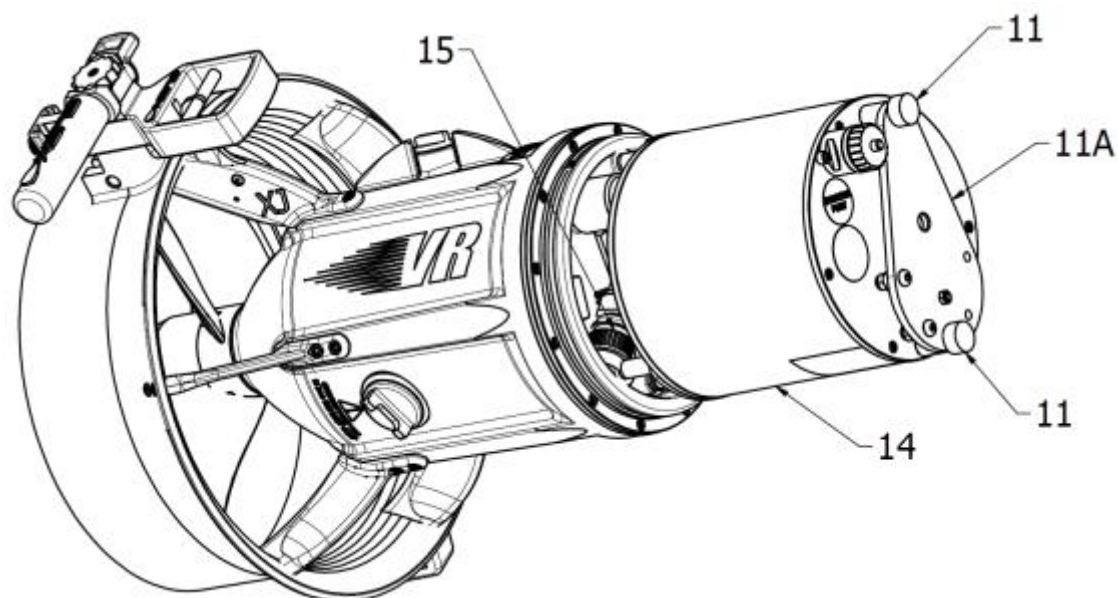
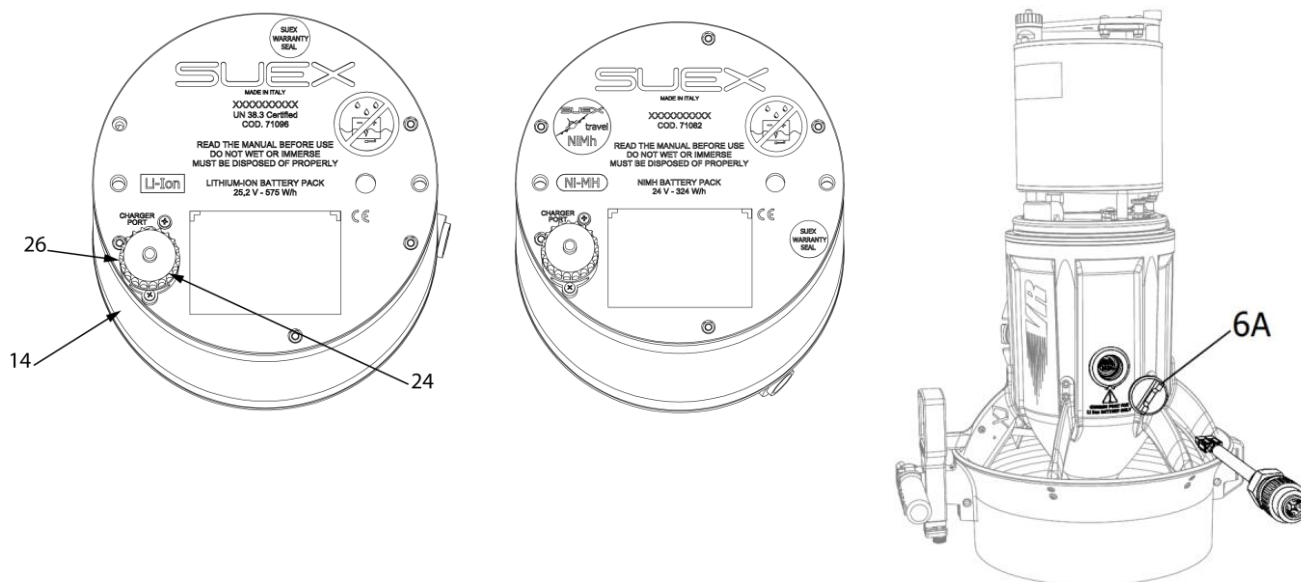

Fig.3 - Extracting the battery
Fig.4 - Battery charging
The battery should be recharged **ONLY** through the **CONNECTOR** (26 - Fig.4), **FORBIDDEN** recharge the battery when it is connected to the engine: there are **RISK OF SERIOUS DAMAGE or DEATH**.
To recharge the battery, remove the battery (14) from the Scooter (Fig. 3), put it in a safe place away from people and flammable objects, unscrew the cap of the charging connector (24 - Fig. 4), connect the socket battery charger power supply to the mains and connect the charging connector (26) to the battery charger (see Battery charger user manual). At the end of charging, disconnect the battery charger and screw the cap (24) of the connector (26) back on. Insert the battery into the scooter only if you intend to use it.